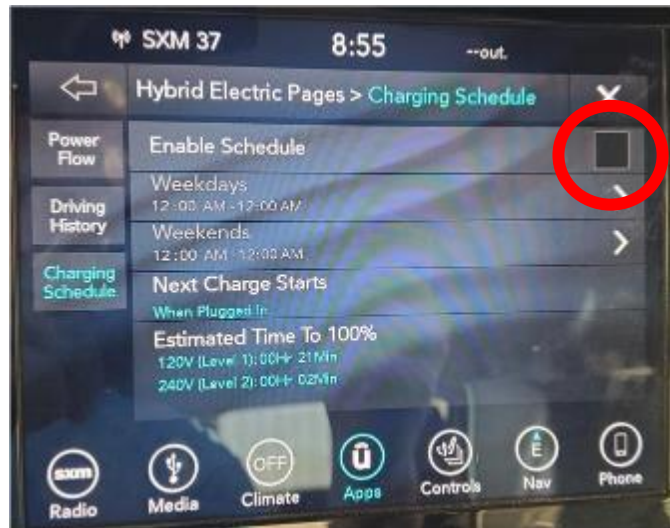

Figure 3 – Enable Schedule Screen
17. Verify the “Check Mark” is **NOT** selected in the “Enable Schedule” box (Figure 3).